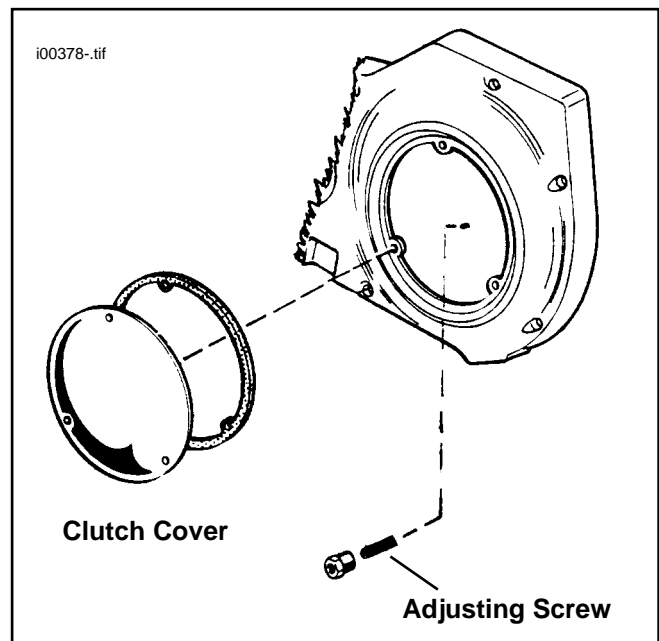

Figure 1. Chain Guard Cover
2. See Figure 1. Remove clutch cover, loosen push rod locknut and turn adjusting screw counterclockwise until clutch cable has enough slack so it can be removed from the clutch release lever.